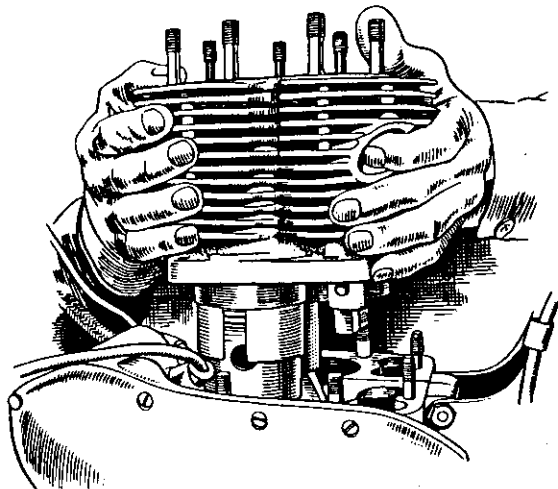

Fig. 22. To Replace the Cylinder Block
49. Grease the cylinder base face and the crankcase face and fit the paper cylinder base joint washer over the studs on the crankcase. Liberally lubricate the cylinder bores, pistons and cams, and assemble the piston ring clips to the pistons. Lower the block over the pistons until the piston rings enter the bores. Support the block (see Fig. 22), and carefully